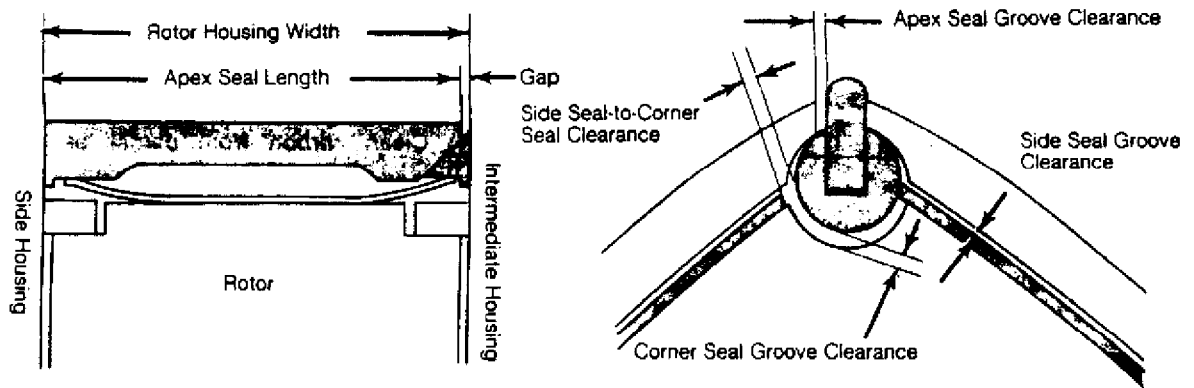

Fig. 18: Measuring Apex, Side & Corner Seal Clearance
3) Install cylindrical corner seals in rotor and check gap between side seals and corner seals. See Fig. 18. Insert feeler gauge between end of side seal and round corner seal. Replace side seals if gap exceeds .016" (.4 mm).